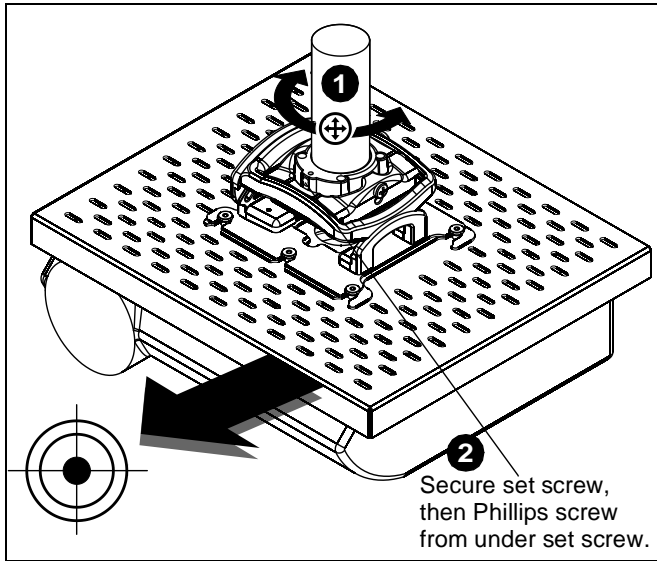

Figure 9
1. Turn RPMA1 clockwise or counterclockwise until the front of the RPMA1 and projector is facing target. (See Figure 9)
2. Secure set screw and security Phillips screw under set screw. (See Figure 9)